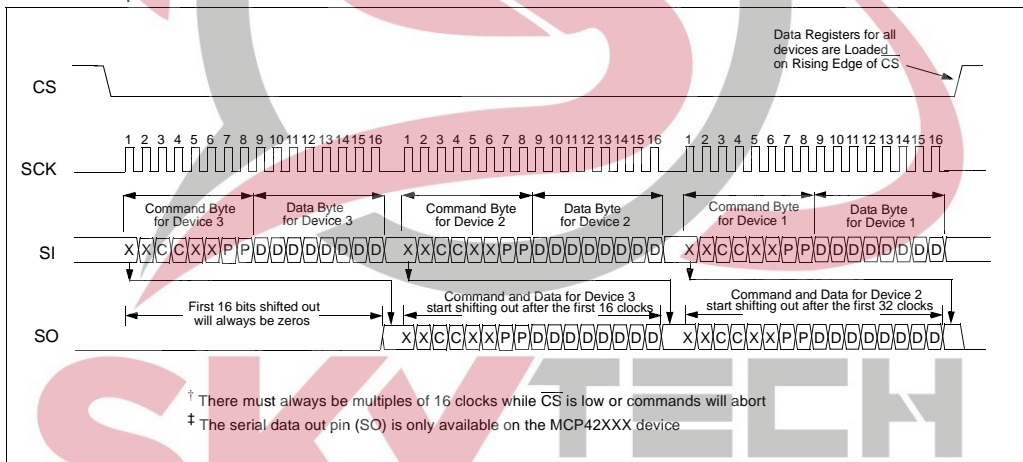
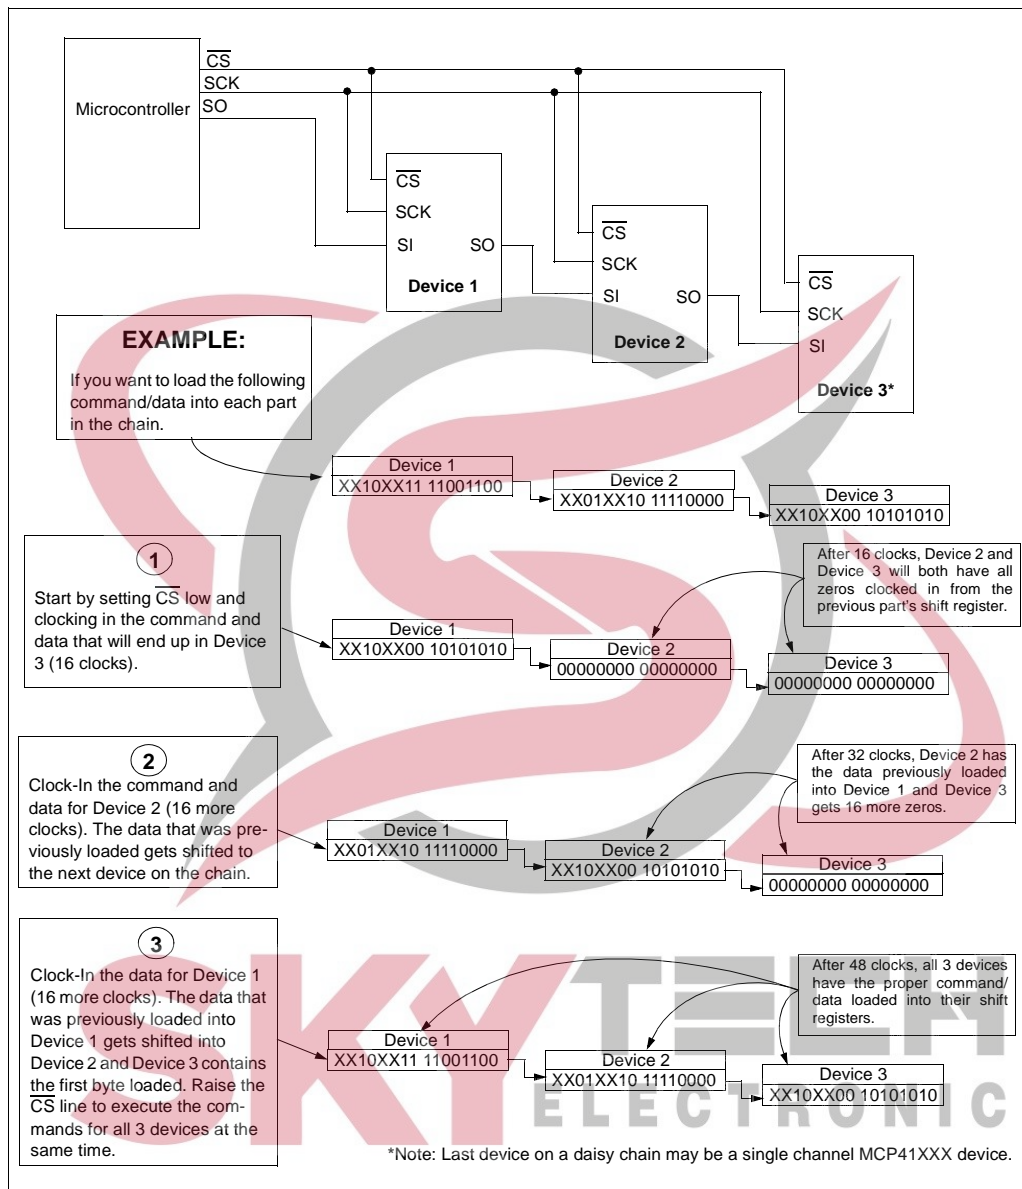

Figure 5-3: Timing Diagram for Daisy-Chain Configuration
Figure 5-4: Daisy-Chain Configuration
Multiple MCP42XXX devices can be connected in a daisy-chain configuration as shown in Figure 5-4, by connecting the SO pin from one device to the SI pin on the next device. The data on the SO pin is the output of the 16-bit shift register. The daisy-chain configuration allows the system designer to communicate with several devices without using a separate \overline{CS} line for each device. The example shows a daisy-chain configuration with three devices, although any number of devices (with or without the same resistor values) can be configured this way. While it is not possible to use a MCP41XXX at the beginning or middle of a daisy-chain because it does not provide the serial data out (SO) pin, it is possible to use the device at the end of a chain. As shown in the timing diagram in Figure 5-3, data will be clocked out of the SO pin on the falling edge of the clock. The SO pin has a CMOS push-pull output and will drive low when \overline{CS} goes high. SO will not go to a high impedance state when \overline{CS} is held high.